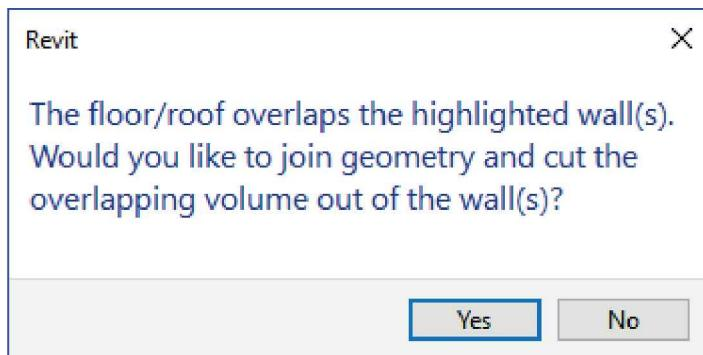

FIGURE 9-1.4 Floor prompt
14. Click **No** when prompted to join the floor to the walls (Figure 9-1.4).
16. In the *Visibility/Graphic Overrides* dialog, on the *Model Categories* tab and in the **Floors** row, click the empty cell in the **Projection/ Surface → Patterns** column (Figure 9-1.4).